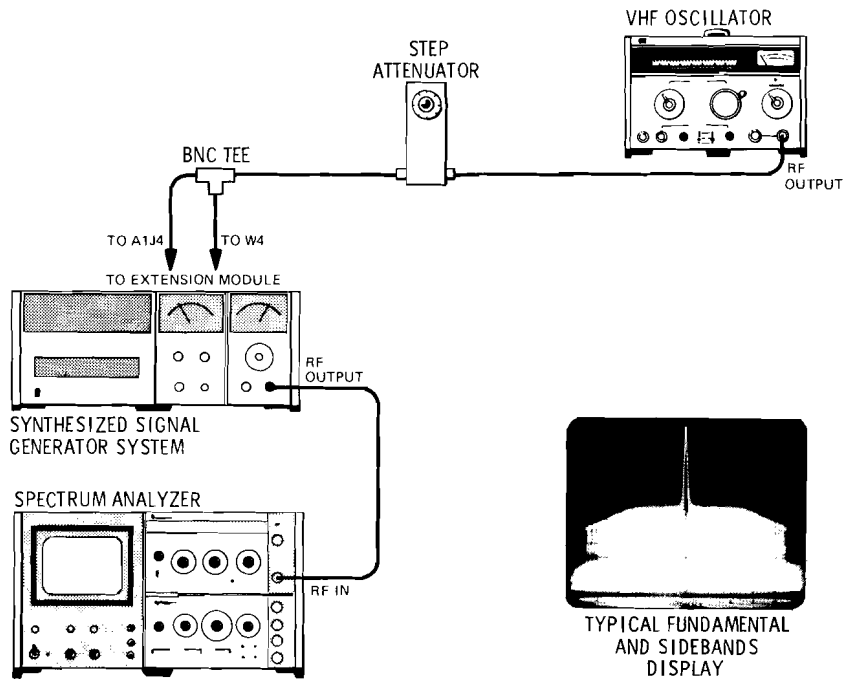

Figure 5-7. YIG Loop Gain and Bandwidth Adjustment Test Setup
1. Interconnect equipment as illustrated in Figure 5-7. The TEE connection is made as follows:
8. Adjust YIG loop gain potentiometer A7R20 until flatness of sidebands (about 40 dB below fundamental) is ≤ 3 dB within ± 500 kHz of fundamental. Refer to Figure 5-7 for illustration of typical waveform.